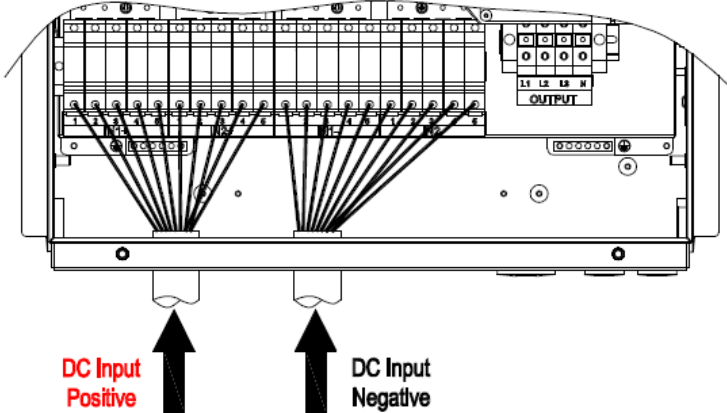

Figure 2.25(a) - DC Input Cable Specifications
- (f) Crimp the DC cables with the attached pre-insulated end ferrule (16Pcs) by using the crimping pliers. (see Figure 2.25)
(g) Connect the crimped DC cables to the terminal block on the circuit board and fasten the screws, as shown in Figure 2.25: